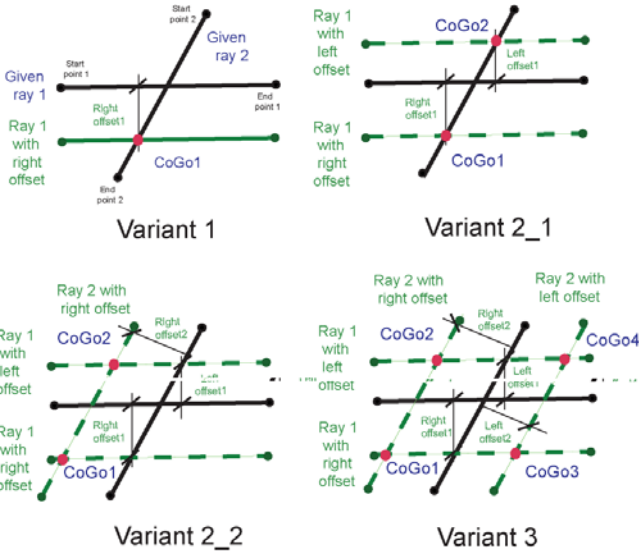

Figure 9-92. The different variants of calculating intersection with offset(s) defined by ray(s)
- only one intersection point is created for a single offset (left or right) of one ray (Variant 1 on the Figure 9-92),
- left and right offsets of one ray (Variant 2\_1 on the Figure 9-92)
- left and right offsets of one ray and a single offset (left or right) of another ray (Variant 2\_2 on the Figure 9-92)
- four intersection points are created for left and right offsets of one ray and left and right offsets of another ray (Variant 3 on the Figure 9-92)